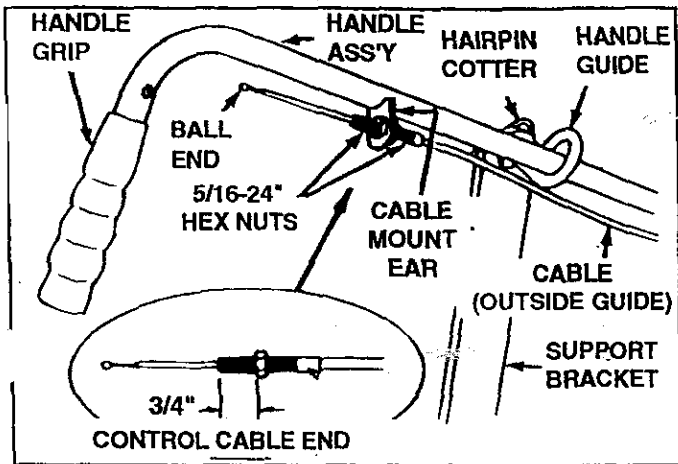
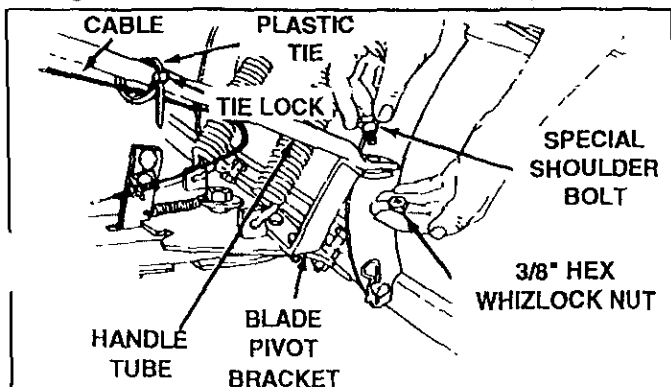
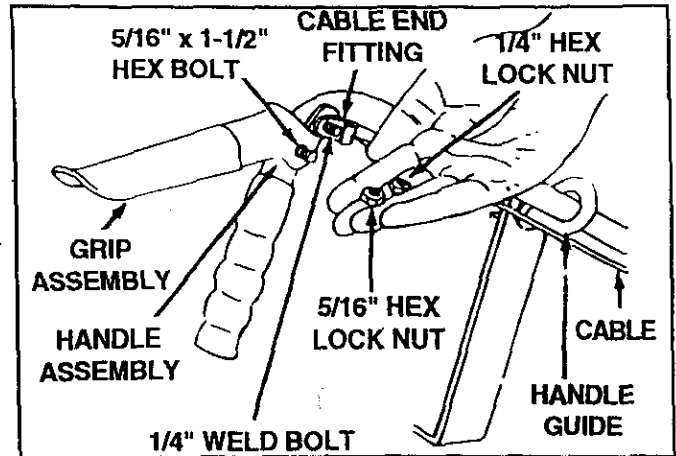

FIGURE 23
FIGURE 24
FIGURE 25
24. Assemble handle assembly down through handle guide as shown in figure 23. Secure lower end of handle to top side of blade pivot bracket with special shoulder bolt (on top) and 3/8" hex whizlock nut underneath. See figure 24.
25. Assemble one 5/16-24" hex nut onto threaded end of control cable approximately 3/4" from end. Assemble threaded end of cable up through cable mount ear and secure with second 5/16-24" hex nut. See figure 24.
26. Assemble handle grip on upper end of handle assembly if not already pre-assembled. See figure 23.
27. Wrap plastic tie around handle tube and cable, (see figure 24), assembling end of tie through lock. Pull plastic tie tight to retain cable to handle tube near front of tractor hood. Cut off extra plastic end.
29. Assemble ball end of cable (see figure 23), through round hole in cable end fitting and into slot of fitting. See figure 25. Assemble cable end fitting over 1/4" weld bolt on grip assembly and secure with one 1/4" hex lock nut. **NOTE: Do not over tighten lock nut, cable fitting must pivot freely.**